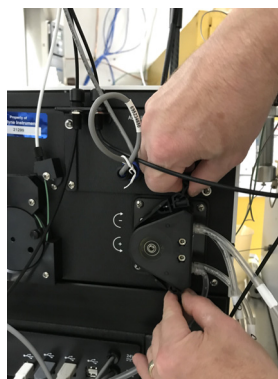

Figure 6-26 Removing the outer band
1. Removed the outer band of the peristaltic pump (Figure 6-26).